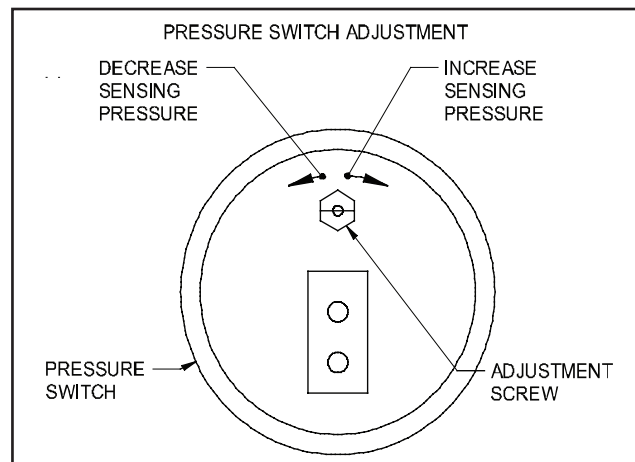

Figure 17
3. Slowly rotate the pressure switch adjustment screw counterclockwise until the contacts close and the burners fire, then rotate the screw ¼ turn counterclockwise. (See Figure 17) Cycle the thermostat a couple of times to ensure proper operation.